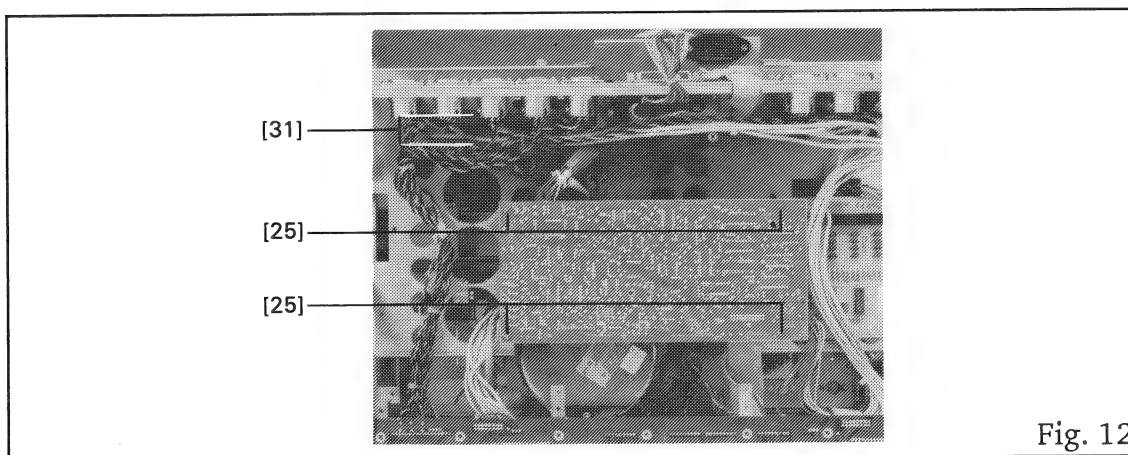

Fig. 12
- Unfasten the 2 Phillips screws [31] (Fig. 12) of the TACHO BOARD and remove the cable tie.